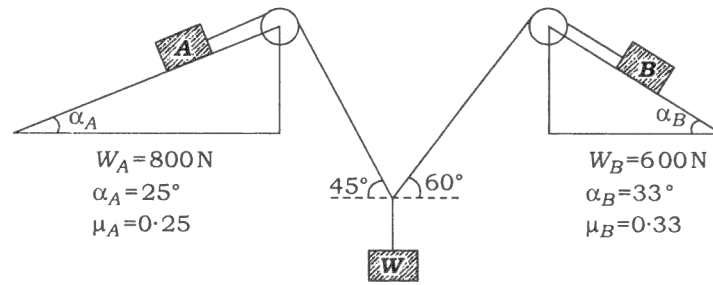

Fig. 2(a)
2. (a) The blocks A and B are kept in equilibrium by the arrangements shown in Fig. 2(a) below. Assuming the pulleys smooth, compute the least and the highest magnitude of W to keep the system in equilibrium. In each case, also compute the tension induced in the string :